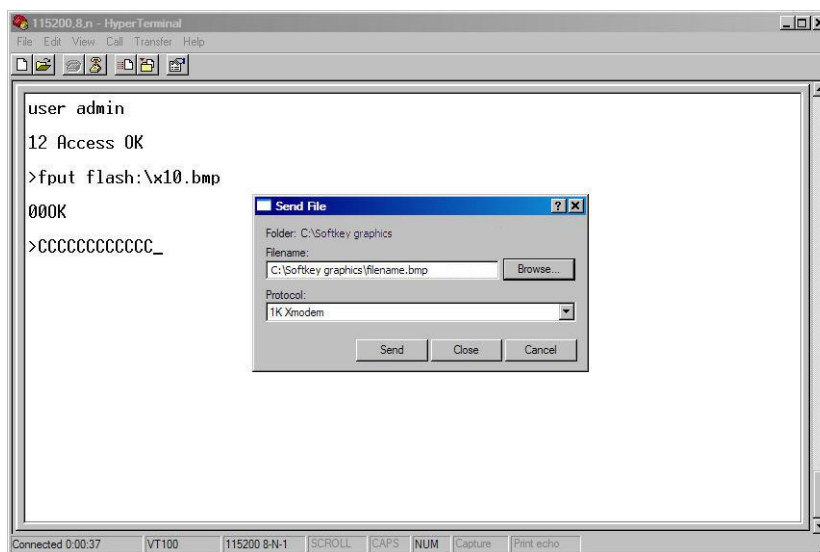

Figure D-9: Send File Dialog Box
4. The IND560x will begin to send C characters (visible in Figure D-9) to indicate that it is in serial communication with the PC.
5. Access the Transfer | Send File menu. In the dialog box that appears (Figure D-9), browse to the graphic file to be uploaded, and select it. In the Protocol selection box, choose 1K Xmodem.